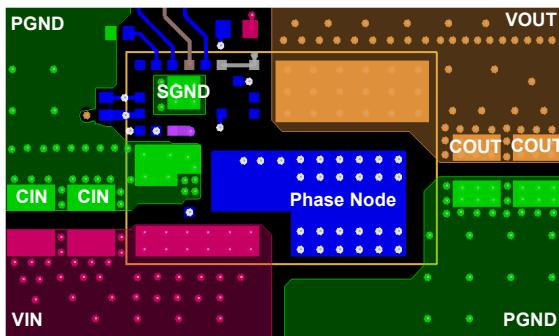
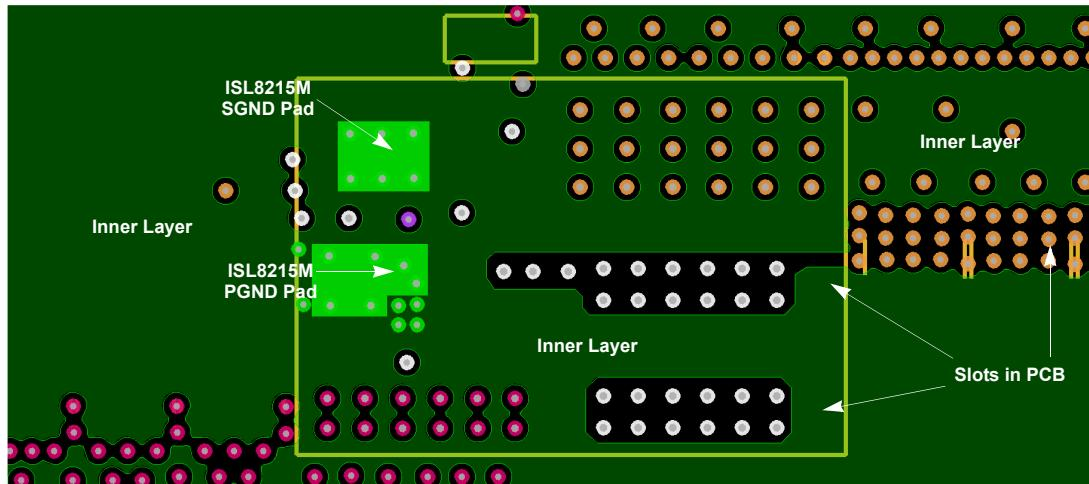

Figure 46. Layout Example - Top Layer
Figure 48. Layout Example - SGND is Connected to PGND Through Internal Layer
- (1) Place the input capacitors and high frequency decoupling ceramic capacitors between VIN and PGND, as close to the module as possible. The loop formed by the input capacitor, VIN pad, and PGND must be as small as possible to minimize the high frequency noise. Place the output capacitors close to the load. Use short, wide copper planes to connect the output capacitors to the load to avoid any parasitic inductances and resistances. A layout example is shown in Figures 46 and 47 on page 30.
- (2) VIN, VOUT, and PGND should use large copper planes to minimize conduction loss and thermal stress. Use enough vias to connect the power planes in different layers.
- (3) Use full ground planes in the internal layers (underneath the module) with shared SGND and PGND to simplify the layout design. Renesas recommends using slots, as shown in Figure 48 on page 30, to ensure that the switching current avoids the SGND pad of the module. Use as much GND plane as possible for the layer directly above the bottom layer (containing components like input caps, output caps, etc). Use the top and bottom layer to route the EN, VCC, and PGOOD signals.
- (4) For a switching frequency of 300kHz and a 42V input, connect a  $4.02\Omega$  1206 resistor and a 270pF 100V X7R 0603 capacitor in series from PH to VIN. Derate the resistor size for switching frequencies higher than 300kHz. Calculate the power dissipated in resistor R5 ( $P_{cal}$ ) by using the formula  $C \cdot V^2 \cdot f$ , where: